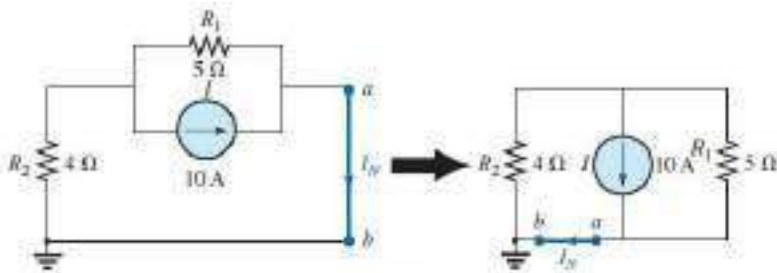

FIG. 9.76
Step 4: As shown in Fig. 9.76, the Norton current is the same as the current through the 4 Ω resistor. Applying the current divider rule gives